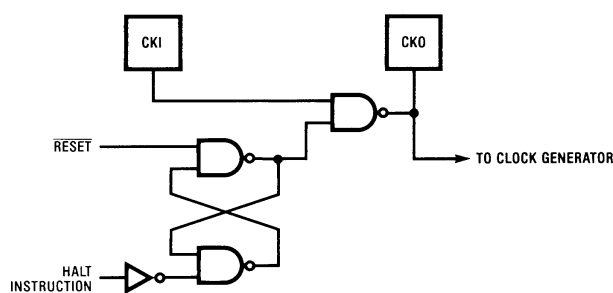

FIGURE 9A. Halt Mode — Two-Pin Oscillator
a. Two-pin oscillator — (Crystal). See *Figure 9A*.